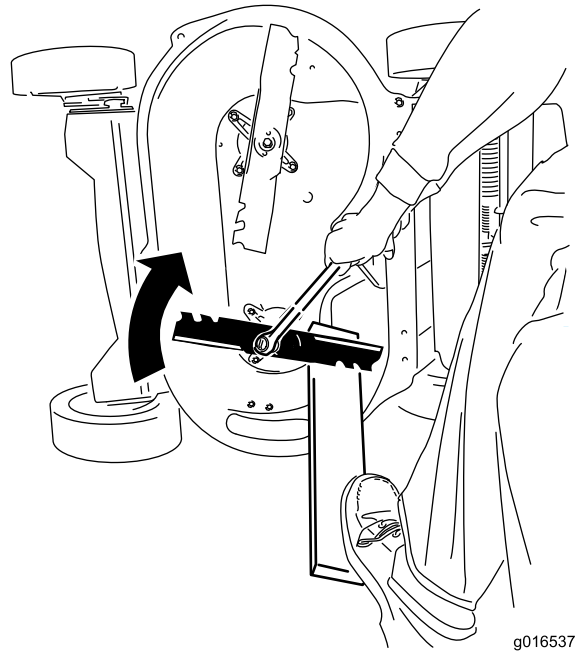

Figure 34
2. Steady each blade with a board and turn the blade bolt clockwise with a torque wrench as shown in Figure 34; torque each blade bolt to 60 ft-lb (82 N-m).